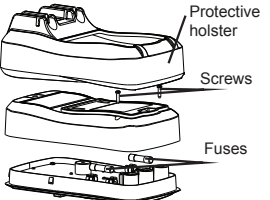

Figure 5a
- Battery and Fuse Replacement** (see Figure 5a, Figure 5b)